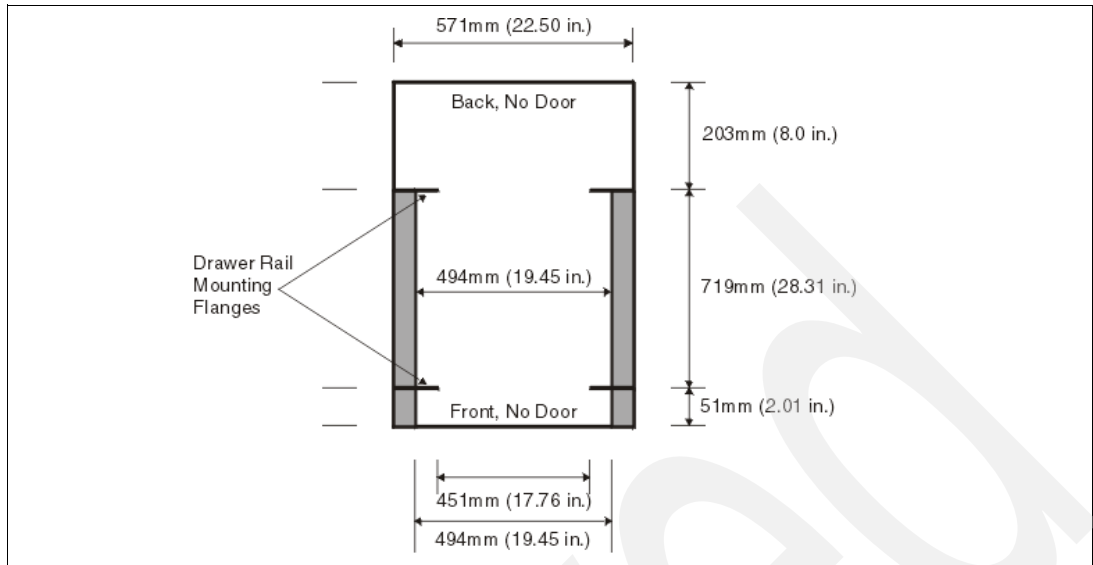
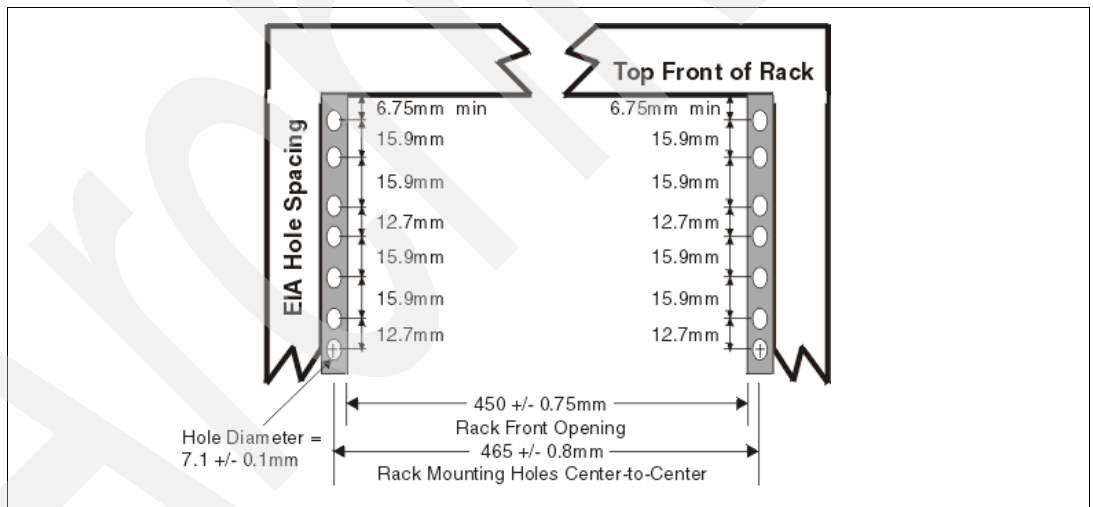

Figure 1-7 Top view of rack specification dimensions (not IBM)
Figure 1-8 Rack specification dimensions, top front view
- ▶ The front rack opening must be 451 mm wide + 0.75 mm (17.75 in. + 0.03 in.), and the rail-mounting holes must be 465 mm + 0.8 mm (18.3 in. + 0.03 in.) apart on center (horizontal width between the vertical columns of holes on the two front-mounting flanges and on the two rear-mounting flanges). Figure 1-7 is a top view showing the specification dimensions.
- ▶ The vertical distance between the mounting holes must consist of sets of three holes spaced (from bottom to top) 15.9 mm (0.625 in.), 15.9 mm (0.625 in.), and 12.67 mm (0.5 in.) on center, making each three-hole set of vertical hole spacing 44.45 mm (1.75 in.) apart on center. Rail-mounting holes must be 7.1 mm + 0.1 mm (0.28 in. + 0.004 in.) in diameter. See Figure 1-8 on page 24 and Figure 1-7 for the top and bottom front specification dimensions.